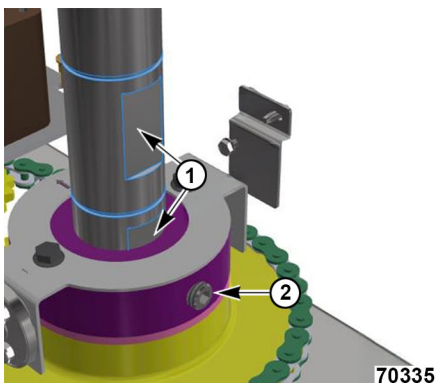

Fig. 100
- 10) Verify rotation shaft flat (1, Fig. 100) is aligned to set screw on set collar (2, Fig. 100).